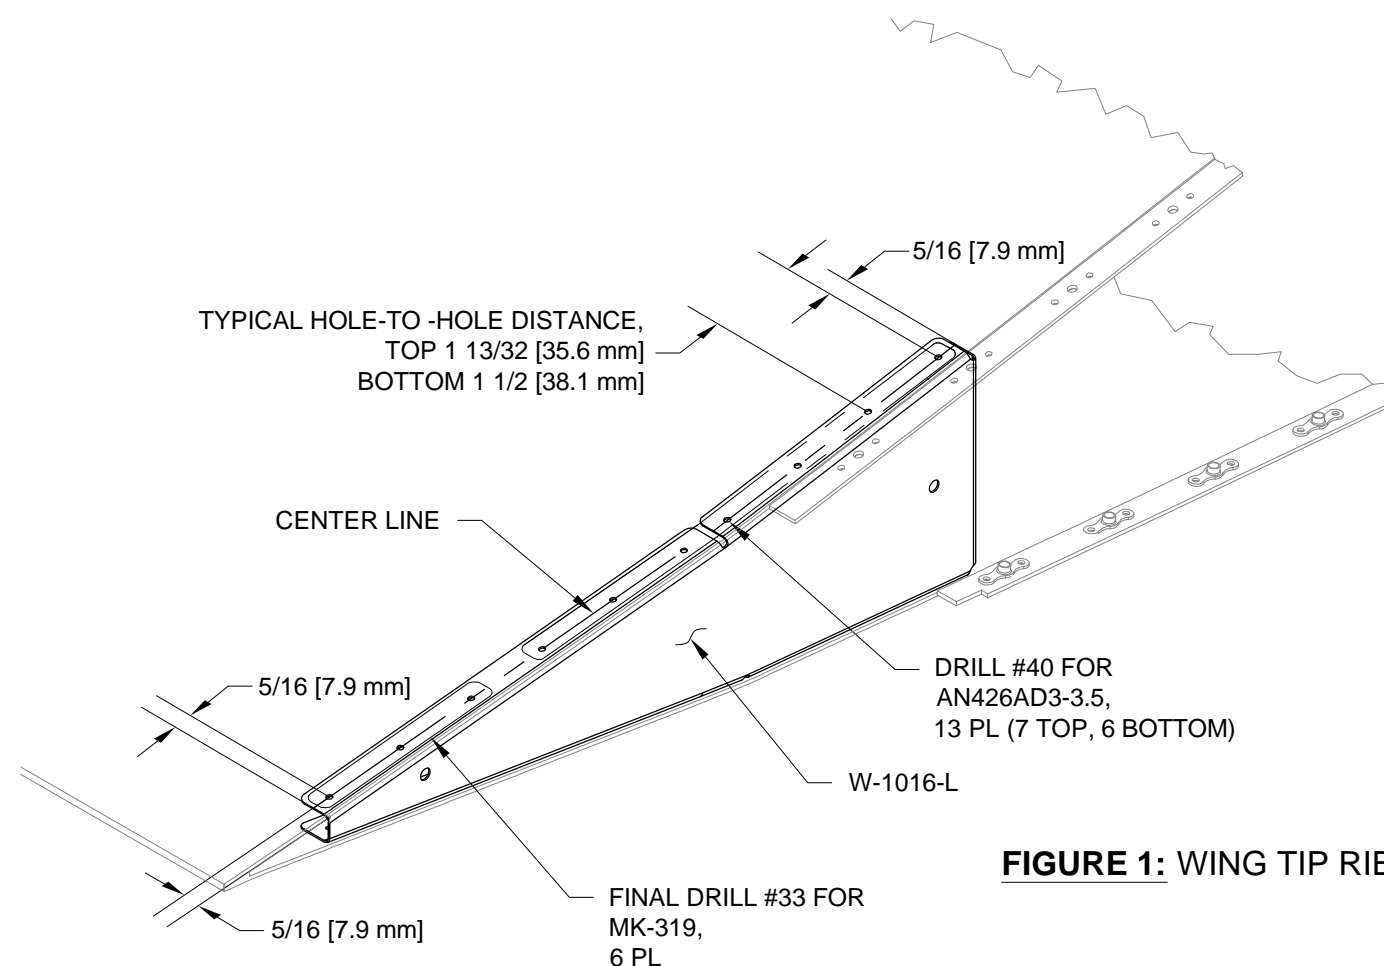

FIGURE 1: WING TIP RIB INSTALLATION
Final Drill #33 the holes for the MK-319 Rivets as shown in Figure 1.
Step 3: Machine countersink the W-1016-L Wing Tip Rib attach holes in the W-1015-L Wing Tip to fit the head of an either an AN426AD3 or MK-319 rivet. See Figure 1.
Rivet the wing tip rib to the wing tip as shown in Figure 1.